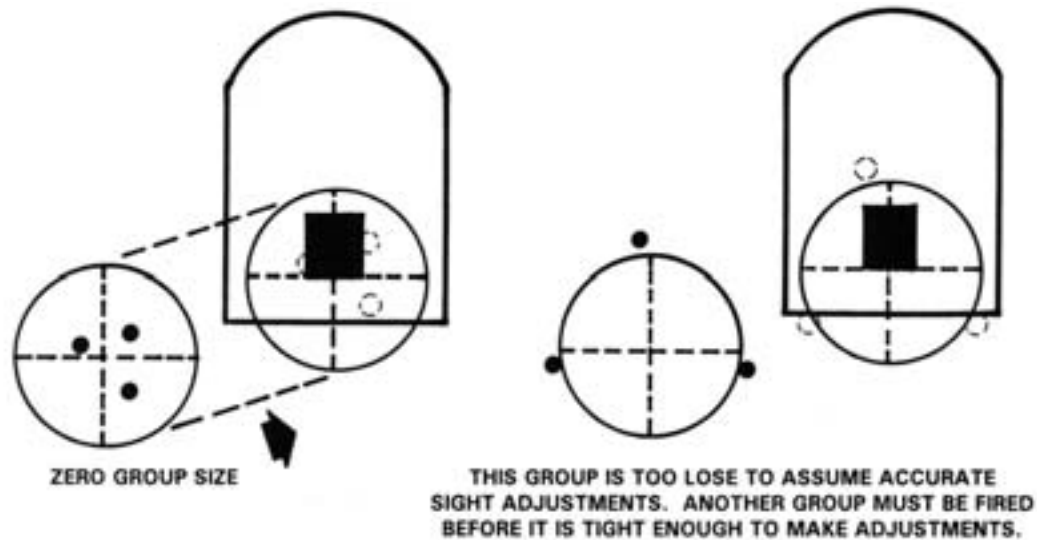

Figure 2-54. Zero Group Size.
(2) Three-round group. The automatic rifleman fires three single rounds loaded individually at the center base of the aiming points on the basic machine gun marksmanship target. He fires the three rounds without making any adjustments to the sights. The shot group must be about a 4-cm circle or smaller to establish the center of the group in relation to the center base of the aiming paster. Establishing a smaller shot group is difficult, because the SAW is an open-bolt weapon. Sight alignment is disturbed somewhat as the bolt moves forward during firing.
(3) Grid square overlay. For a more accurate adjustment, the automatic rifleman moves downrange and places the grid square overlay over pasters 1 and 2. He ensures that he aligns the overlay with the pasters and squares.
- Upon completion, return to the firing line to make corrections to the weapon. Figure 2-54 illustrates a zero group size on which adjustments can be made and a group that is too loose for adjustments. If a group is too loose, check your position and grip.
(4) Windage correction. If the center of the group is to the left or right of the black aiming paster, the automatic rifleman must correct for windage. To do this, he must rotate the windage knob to move the peep sight in the direction of the desired change (rotate windage knob toward the muzzle [counterclockwise] to move the strike of the round to the right; rotate the windage knob toward the buttstock [clockwise] to move the strike of the round to the left). One click in